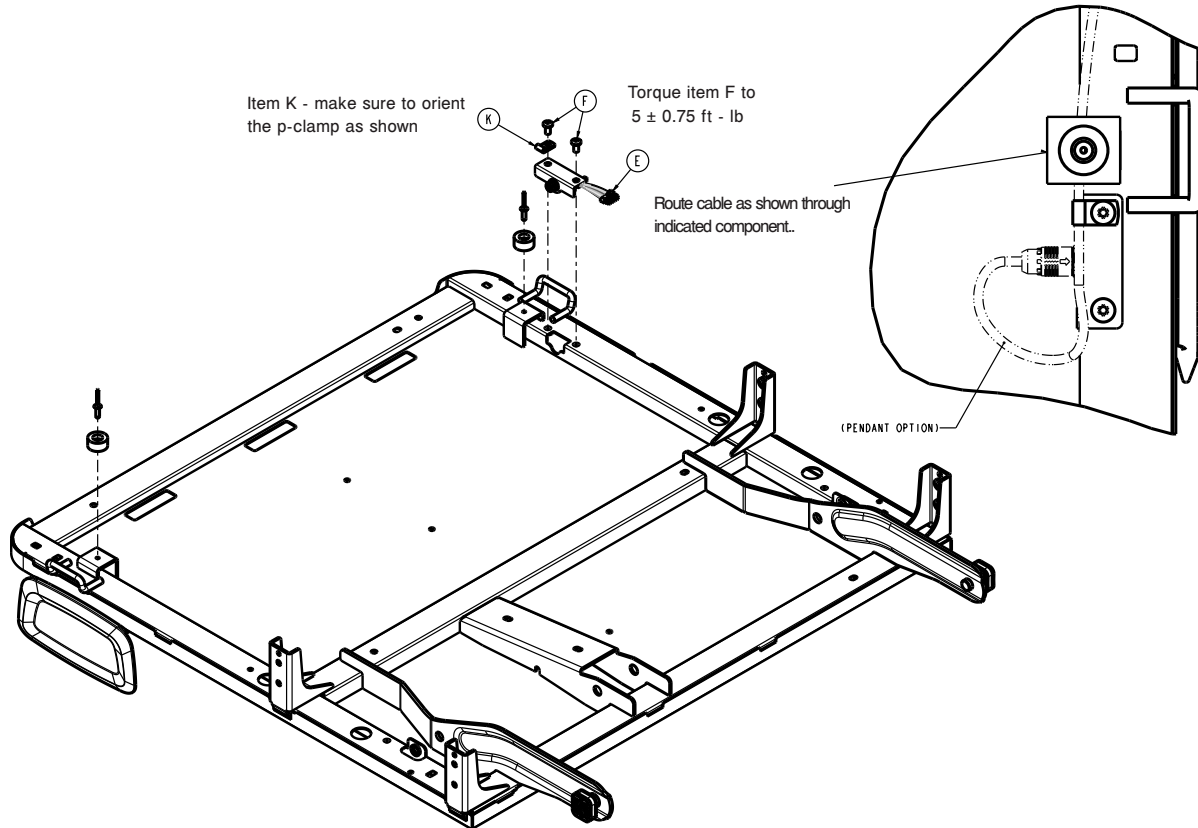

Figure 79 – Attaching the pendant
7. Using a T30 Torx driver, remove the two screws (F) that secure the pendant connector (E) to the Fowler (Figure 79).
8. Route the pendant cable through the Fowler weldment (Figure 79).
9. Using a T30 Torx driver, install the two screws (F) that secure the pendant connector (E) to the Fowler (Figure 79).
Note - When you install the head end screw, install the supplied p-clamp (K) over the pendant cable. Leave a service loop, and then tighten the screw (Figure 79).